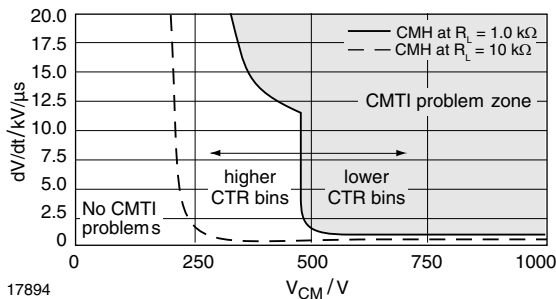

Fig. 18 - Typical CM_H with R_{BE} Characteristics for 6 pin Transistor Optocouplers with External Base Connection
Due to the strong influence of semiconductor parameters (compare especially with equation (8)), it is hardly possible to give a general curve which is valid for all optocouplers. Hence, figure 18 gives only a general approximation without claiming to be valid for every type.
- If operating the phototransistor in transistor switch or emitter follower mode, a low-value pull-up resistor should be chosen (compare with figure 18)
- Choose low-CTR binning types (compare with figure 18), because of their lower h_{FE}